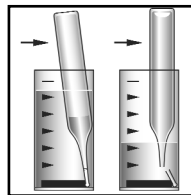

Figure 3
4. Place the ULR CHEMet ampoule in the sample cup. Snap the tip by pressing the ampoule against the side of the cup. The ampoule will fill leaving a bubble to facilitate mixing (fig 3).